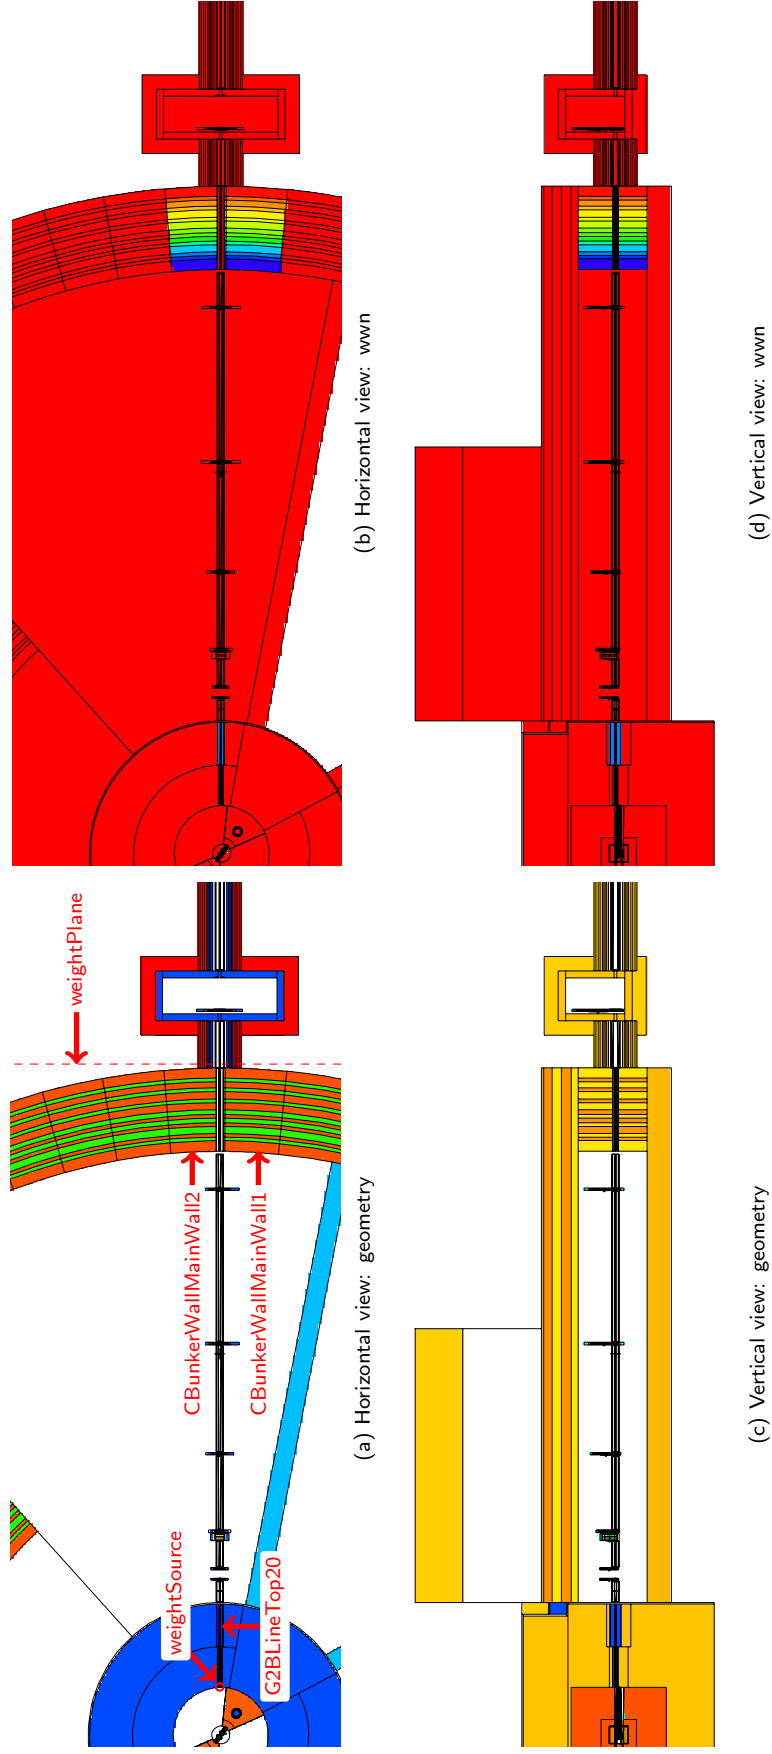

Figure 8: Cell-based weight window
The angular parts proportionate as (13). Each cell as 26 neighbours (Fig. 8). The approximation is done by whole set of single subtractions from the cell in all directions.
-defaultConfig Single ODIN These optional arguments build the ODIN beam line without building any other beamlines (see Fig. 8)..